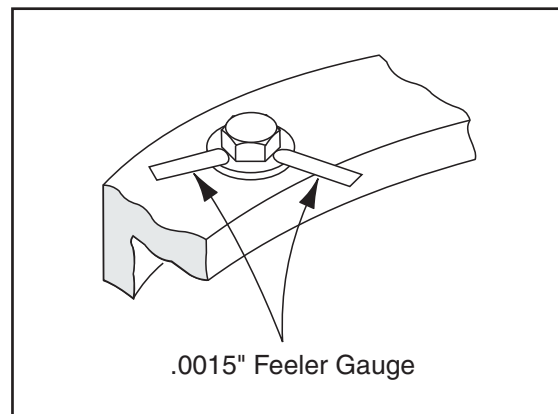

Figure 2-15. Swing Bearing Bolt Feeler Gauge Check
2. At the positions indicated on Figure 2-15., Swing Bearing Bolt Feeler Gauge Check, try and insert the 0.0015" feeler gauge between the bolt head and hardened washer at the arrow indicated position.
4. At the position indicated on Figure 2-15., Swing Bearing Bolt Feeler Gauge Check, try and insert the 0.0015" feeler gauge between the bolt head and hardened washer at the arrow indicated position.